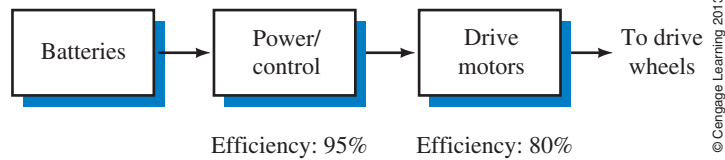

FIGURE 4–39
61. The power/control system of an electric car consists of a 48-V onboard battery pack, electronic control/drive unit, and motor (Figure 4–39). If 180 A are drawn from the batteries, how many horsepower are delivered to the drive wheels?